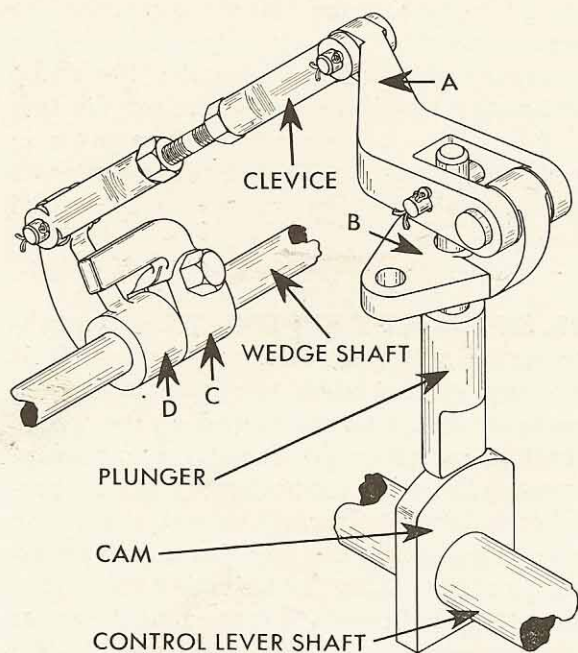

FIGURE 18-18
On the control lever shaft there is a cam (see Figure 18-18) so positioned that it lifts a plunger when the control lever is anywhere between the ahead or astern air-start positions. Lever (A) is pivoted on the fulcrum fixture (B) which is bolted to the top of the control housing. On the wedge shaft, lever (C) is clamped firmly while lever (D) is free to revolve.
In Figure 18-18, the cam has raised the plunger, and lever (D) has turned the wedge shaft by coming against the prong on lever (C). When the control lever is moved into either run position, the plunger will drop off the lobe of the cam and lever (D) will back away from the prong on lever (C), leaving the wedge shaft in control of the governor.
33. ADJUSTMENT OF FUEL CUT-OUT: With the engine operating in the slow or idling position, the clearance between lever (D), Figure 18-18, and the prong on lever (C) should be set at $\frac{1}{32}$ inch. This can be done by turning the clevice on or off the rod, which will lengthen or shorten the linkage.